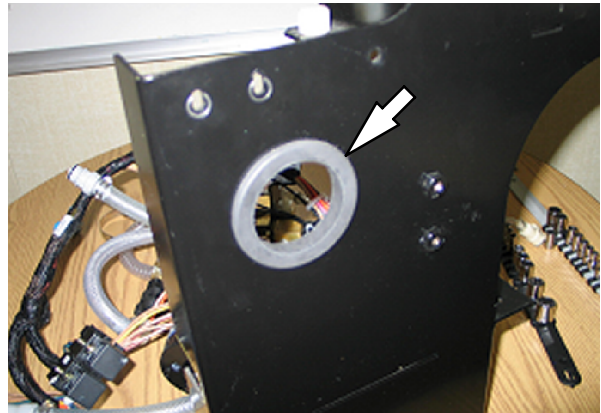

FIG. 10
12. Install the rubber grommet (7) into the hole in the new FaST bracket (1). Refer to Fig. 10.